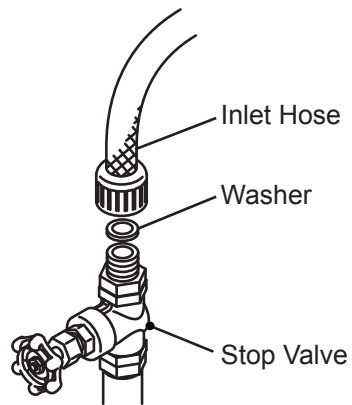

Fig. 21
- 4) Close the potable water supply line Stop Valve. See Fig. 21.